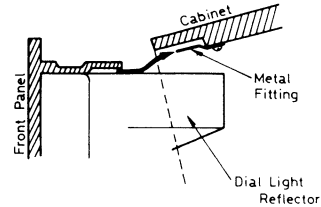

Fig. 8
3. When the cabinet is installed, insert the metal fitting of cabinet (as shown in fig. 8) into the space between the front panel and light reflector.